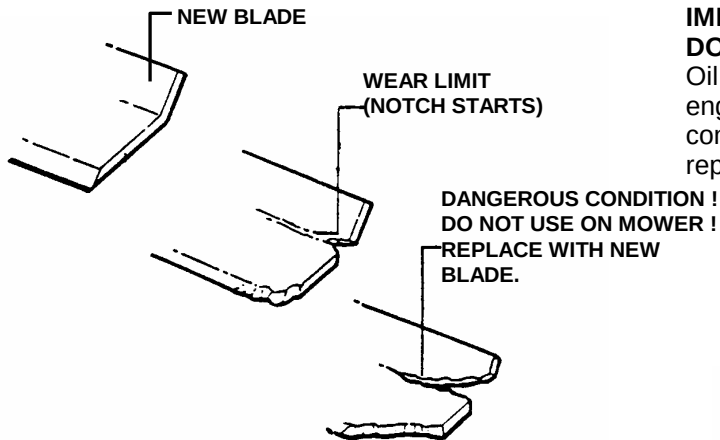

FIGURE 4.1
1. Inspect blade frequently for signs of excessive wear or damage. See Figure 4.1.
2. Replace the blade if it is badly chipped, bent, noticeably out of balance or has cracks or notch in either tip. See Figure 4.1 & 4.1A. Replace with new blade.
6. Reinstall blade. See Figure 4.1. Check torque of blade retaining cap screw. Recommended torque should be 40 ft. lbs.